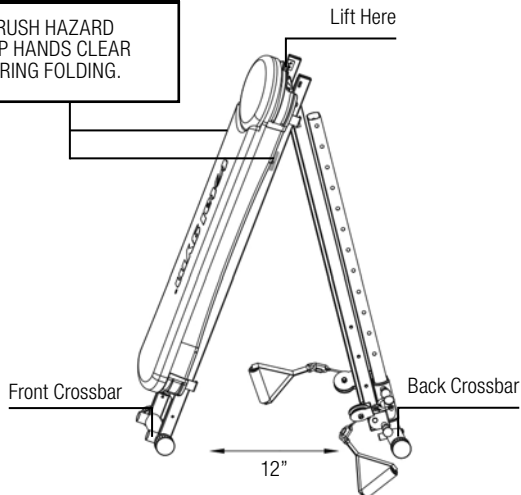

Fig. 7B
3. Next, pull the Spring Loaded Pin to release the Rail and fold the exerciser together as shown in Fig. 7B. Be sure you release the Spring Loaded Pin before folding.